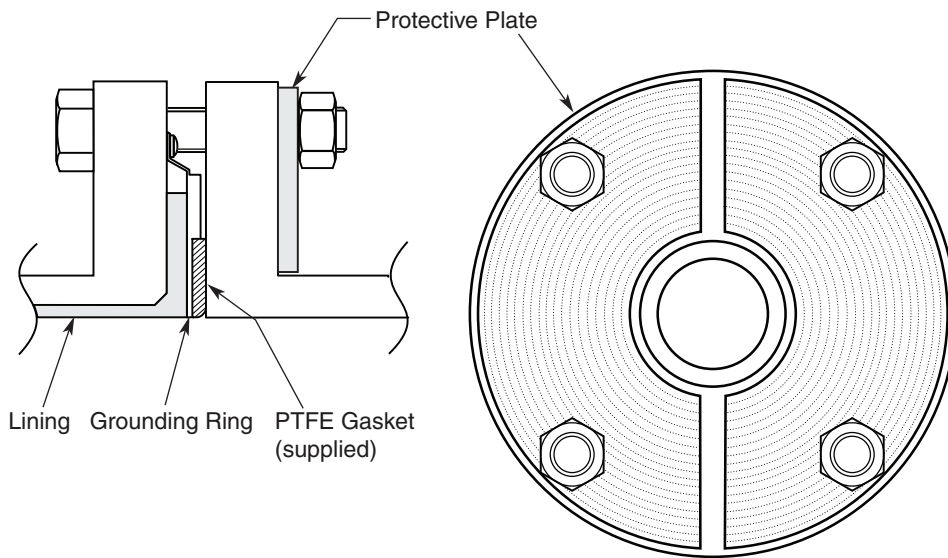

Figure 33. Installation on PVC Pipe with non-316 ss Grounding Ring (with Protective Plate)
2. Use this method to install the flowtube along with a protective plate to prevent PVC pipe from being deformed or damaged when the bolts are tightened to the specified torque. Insert a protective plate between the outer side of the PVC flange and the flowtube as shown in Figure 33. The protective plate protects the PVC pipe from deformation or damage when it is secured to the specified torque. For the appropriate torque, see Table 6.